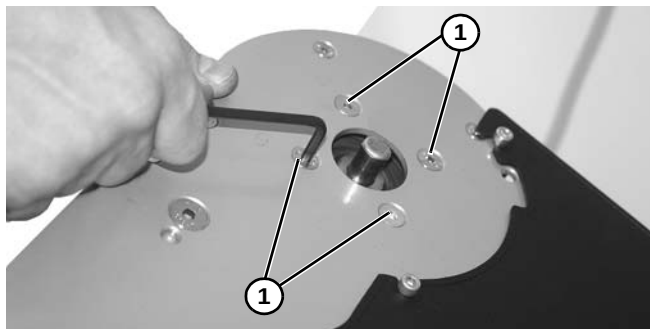

Figure 73
3. Remove four socket head screws (**Figure 73, item 1**) on side of drive spindle.